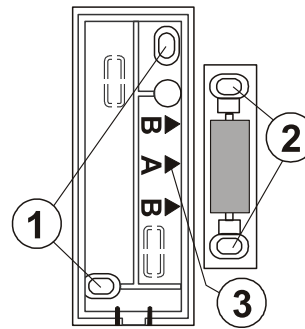

Fig. 3
2. Screw the rear cover to the solid part of the door/window. The marks A and B show the right position of the magnet. (Fig. 3)